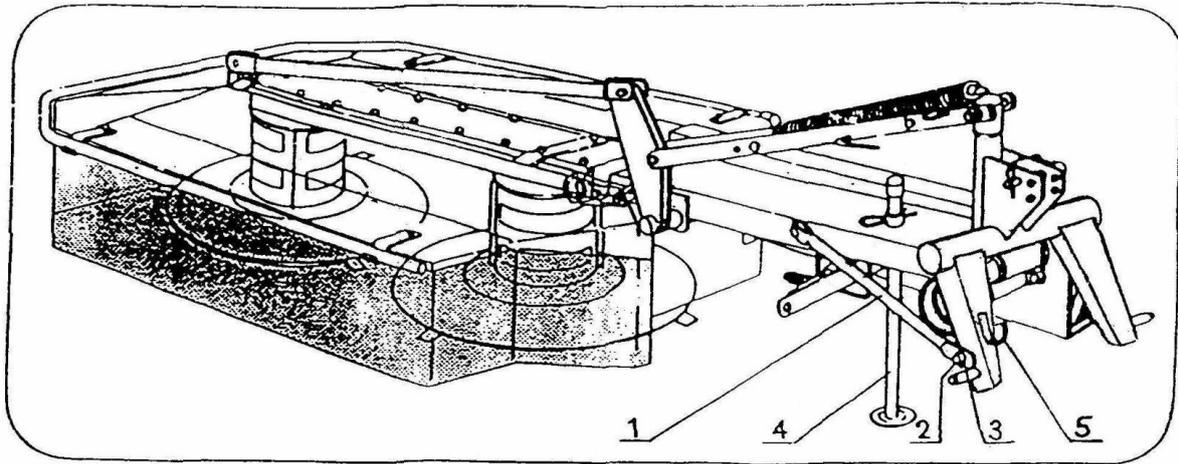

Fig. 3. Linking of the mower and the tractor into a working unit.
Before disconnecting the mower from the tractor, place the mower on a support 4. and rest the jointed shaft on the yoke 5. (Fig. 3.)
- Set up the three-point frame in a transport position – the transport rod 1. should be placed on mandrel 2. of the three-point frame and secured with a pin 3. (Fig. 3.).
- Set up the support 4 (Fig. 3.) in position for the stop.